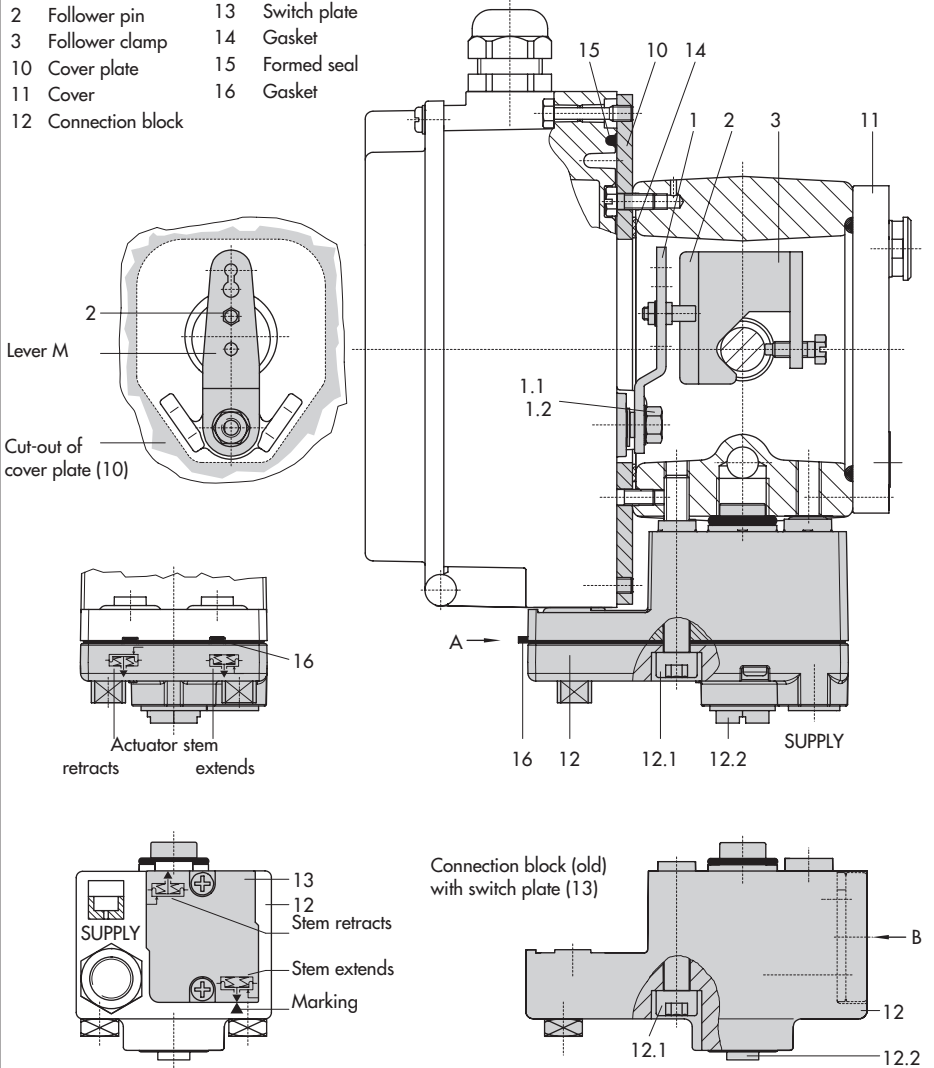

Fig. 5 - Direct attachment - Signal pressure connection for Type 3277 Actuator with 240, 350 and 700 cm2
| Table 2 Direct attachment to Type 3277 Actuator, see Fig. 5 |   |                      |                          |                 |
1. Place follower clamp (3) on the actuator stem, align and screw tight so that the mounting screw is located in the groove of the actuator stem.
2. Mount cover plate (10) with narrow side of the cut-out opening (Fig. 5, on the left) pointing towards the signal pressure connection. Make sure that the bonded gasket (14) points towards the actuator yoke.
3. For actuators with 700 cm2, remove the follower pin (2) at lever **M** (1) on the back of the positioner from pin position **35**, reposition it in the bore for pin position **50** and screw tight.
6. Make sure that the tip of the gasket (16) projecting from the side of the connection block (12) is positioned above the actuator symbol that corresponds with the actuator with fail-safe action "Actuator stem extends" or "Actuator stem retracts." If necessary, remove the three fixing screws and the cover. Then reposition the gasket (16) turned by 180°. The previous version of the connection block (Fig. 5, bottom) requires the switch plate (13) to be turned such that the corresponding actuator symbol points to the marking.
7. Place the connection block (12) with the associated seal rings against the positioner and the actuator yoke. Screw it tight using the fixing screw (12.1). For actuators with fail-safe action "Actuator stem retracts", additionally remove the stopper (12.2) and fit on the external signal pressure piping.
8. Mount cover (11) on the other side. Make sure that the vent plug points downwards when the control valve is installed to allow any condensed water that collects to drain off.